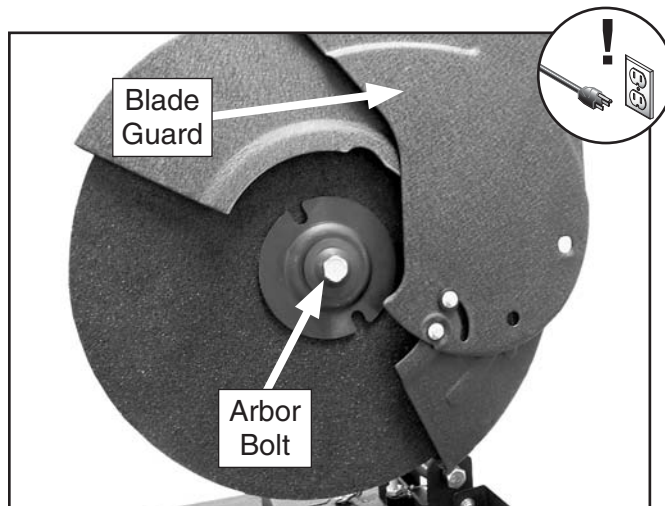

Figure 13. Blade guard in the up position.
2. Raise the blade guard all the way to expose the arbor bolt (see **Figure 13**).